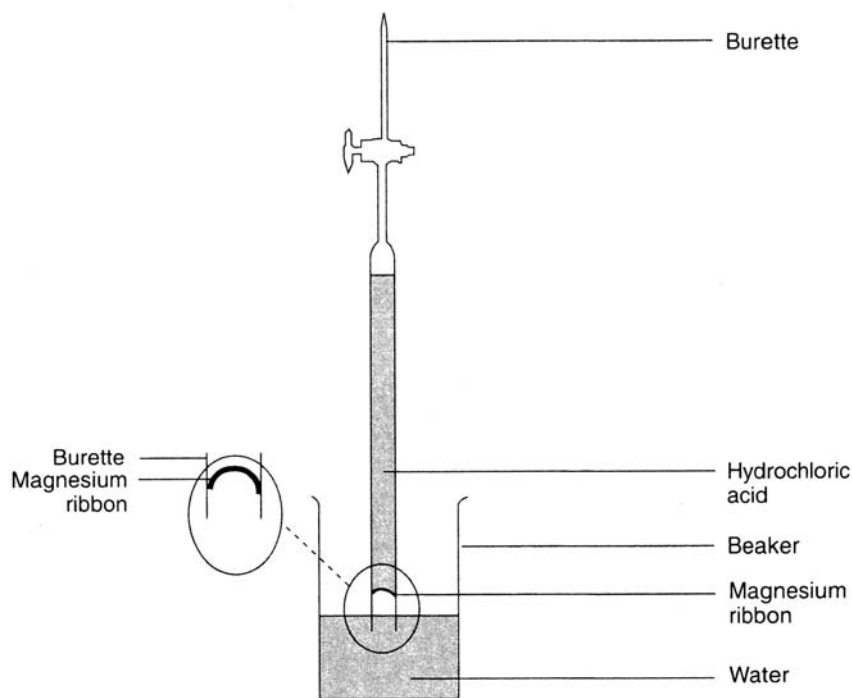

Figure 5.1
3. Push the magnesium into the top of the burette, above the liquid level, so that it is held by its own tension (see Fig. 5.1).